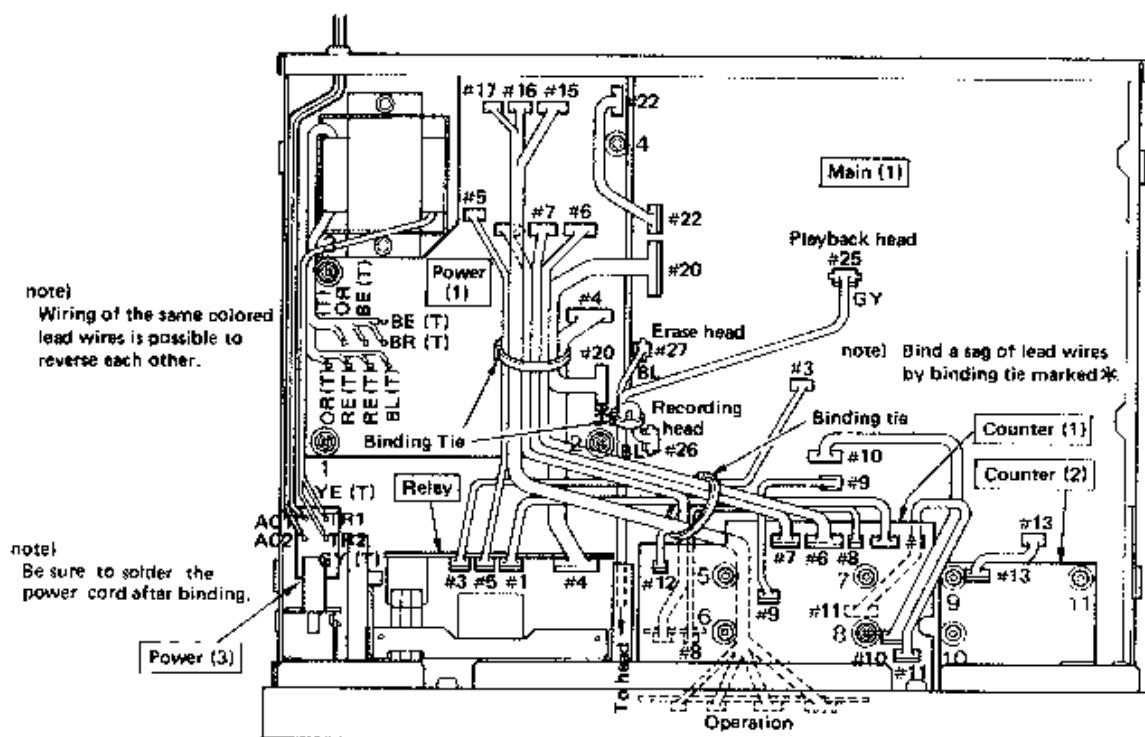

Fig. 15
- Disconnect the connectors (#1, #3, #4 and #6) connected to the relay circuit board. (Refer to fig. 15).
- Remove screws ③ through ⑧ and plastic rivet 4 in fig. 15 and then remove the power circuit board (1). In this way, you can replace the parts.
2. Counter circuit board (1) removal
Remove plastic rivets ④ through ⑦ and screw ⑧ in fig. 15 and then pull out the counter circuit board (1) by sliding it backward.
3. Counter circuit board (2) removal
Remove plastic rivets ⑨ through ⑪ in fig. 15 and then pull out the counter circuit board (2) by sliding it backward.